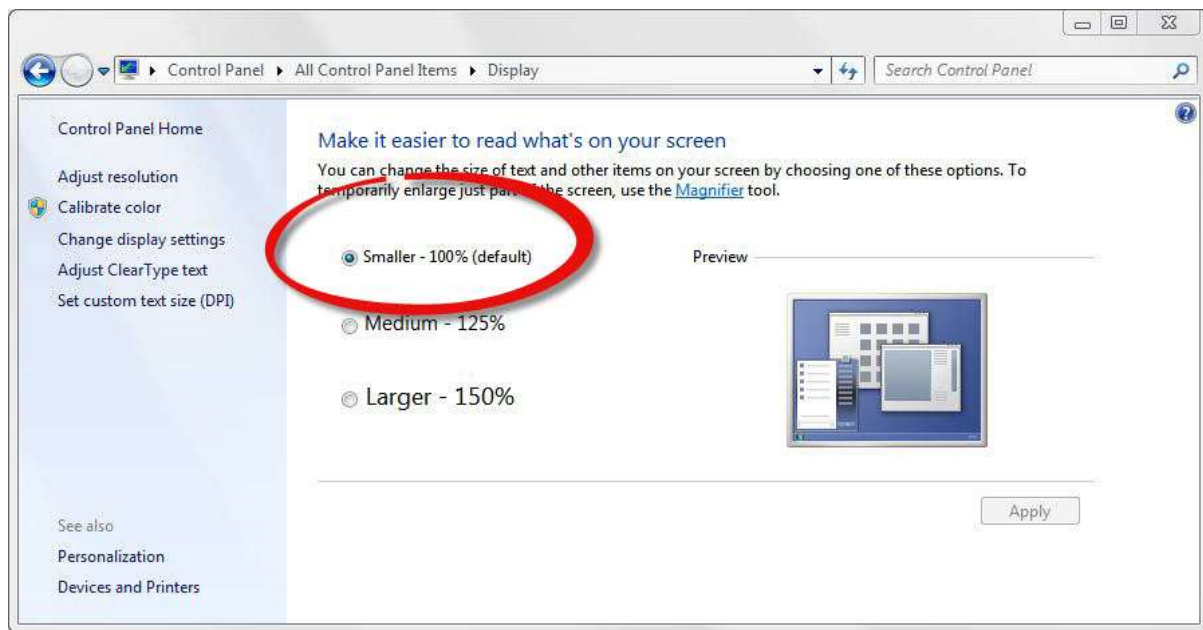

Figure 1: display text size settings screenshot.
- Windows 7 and 8 users should set text size at 100% (Small) in the Display settings of the Control Panel (see screenshot in Figure 1).